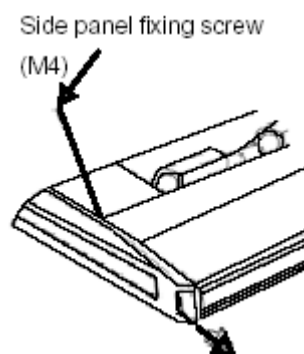

Fig.3
- ☆ Remove the side panel fixing screw and pull to the front direction (arrow direction) to remove. Side panel fixing screw (Refer to Fig.3).